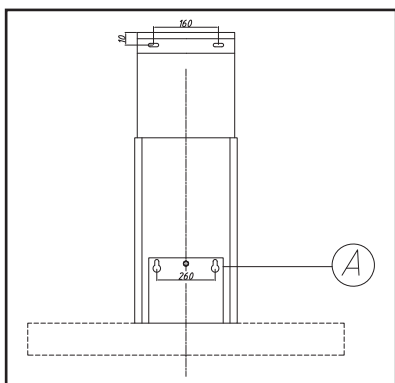
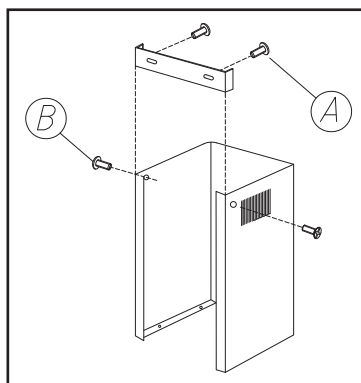
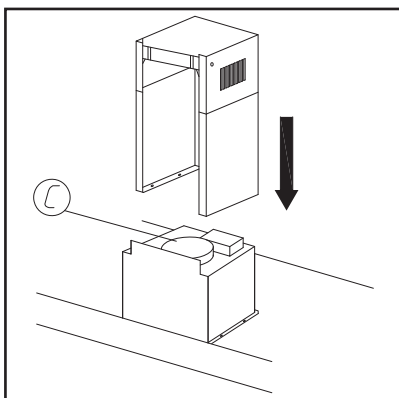

Fig.2
Fig.3
Fig.4
1. Drill the holes according to the distances indicated (Fig.2).
2. Adjust the width of the support bracket of the exterior chimney (Fig.3). Then fix it to the ceiling using the screws A (Fig.2) make sure that it is in line with your hood and respecting the distance from the ceiling indicated in Fig.2. Connect the flange C to the air exhaust hole using a connection pipe (Fig.4).